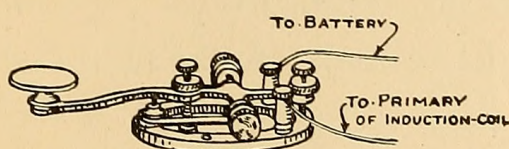

FIG. 330. — A Good Form of Wireless Key.
**The Wireless Key** (Fig. 330), which makes the spark jump for a longer or shorter period of time according to how pressed. A good cheap key costs about 50 cents, a full brass key about \$1.